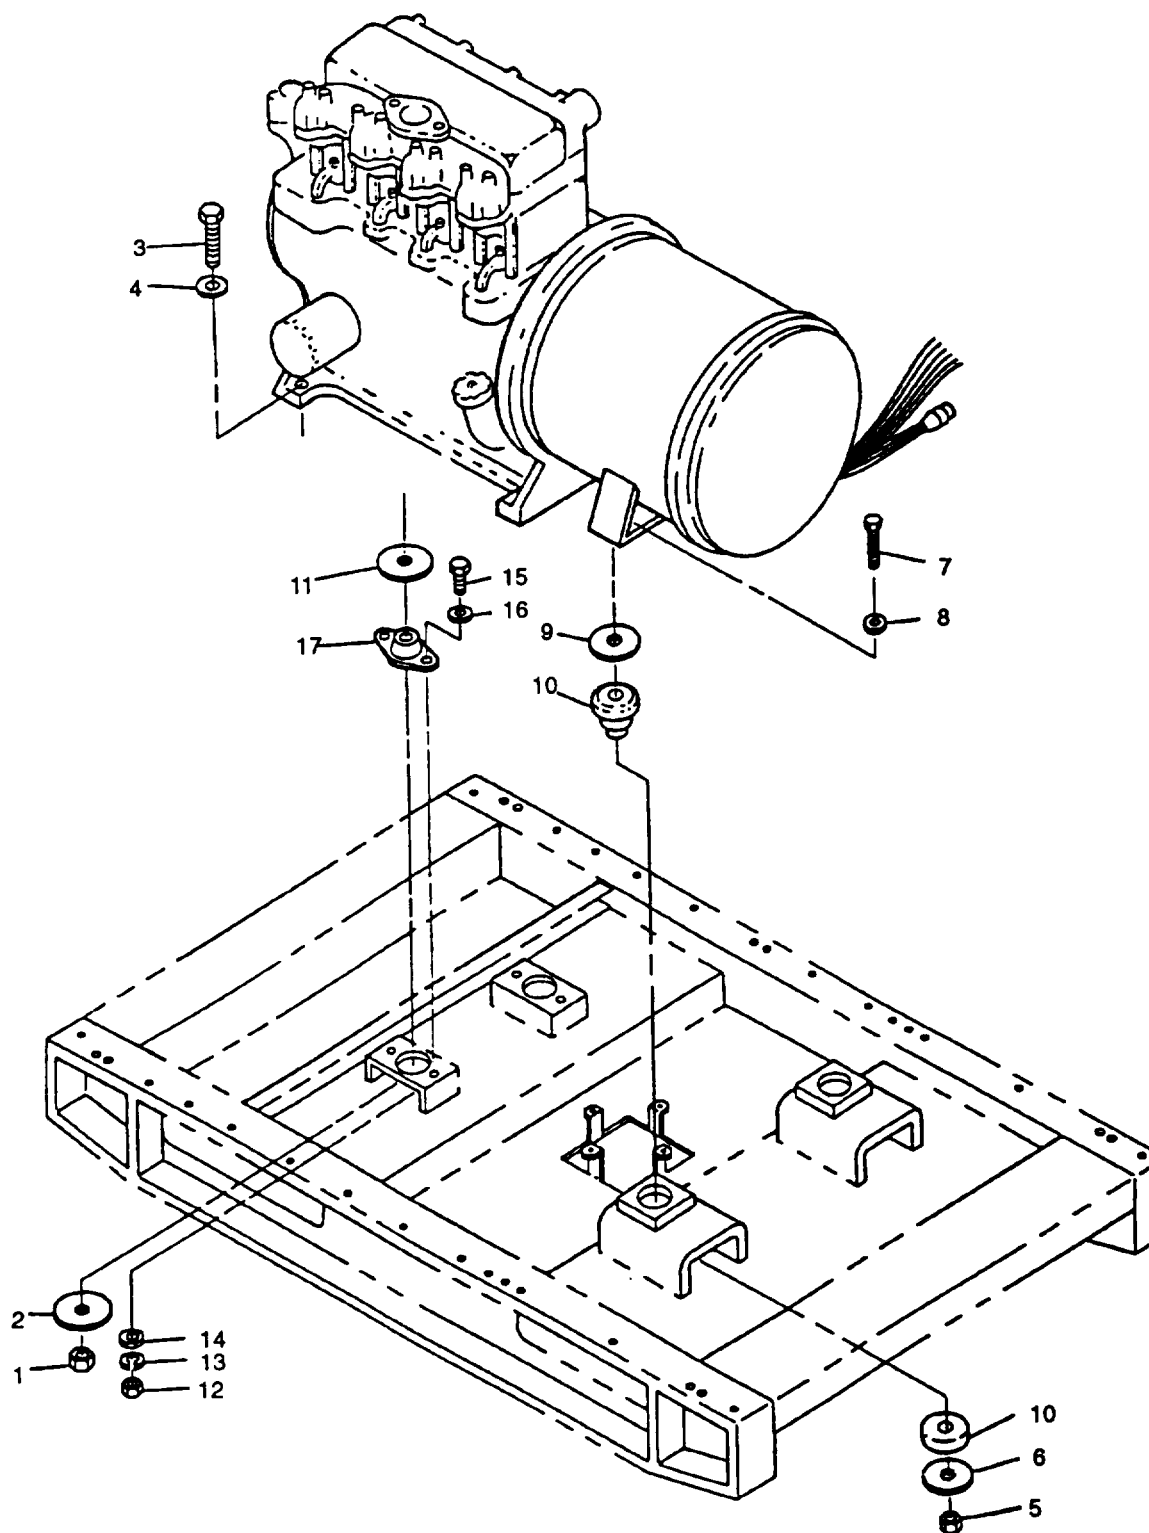

FIGURE 3-1. Engine and Generator Assembly Removal
- y. Remove nuts (1, FIGURE 3-1), washers (2) and (4), and mounting bolts (3) from engine mounting points.
- z. Remove nuts (5), washers (6) and (8), and mounting bolts (7) from generator mounting points.
- ac. Loosen nuts (1) at engine mounting points.
- ag. Remove generator snubbing washers (9, FIGURE 3-1) and shock mounts (10).
- ah. Remove snubbing washers (11), nuts (12), lockwashers (13), washers (14) and (16), bolts (15), and engine shock mounts (17).
- a. Install engine shock mounts (17, FIGURE 3-1) with snubbing washers (11), nuts (12), lockwashers (13), washers (14) and (16), and bolts (15).
- b. Install generator shock mounts (10) and snubbing washers (9).
- f. Install nuts (1, FIGURE 3-1), washers (2) and (4), and mounting bolts (3) at engine mounts. Torque nuts (1) to 31 ft-lbs (42 Nm). Proceed to step i.
- h. Tighten nuts (1, FIGURE 3-1) at engine mounting points to 31 ft-lbs (42 Nm).
- i. Install nuts (5), washers (6) and (8), and mounting bolts (7) at generator mounting points. Torque nuts (5) to 45 ft-lbs (61 Nm).